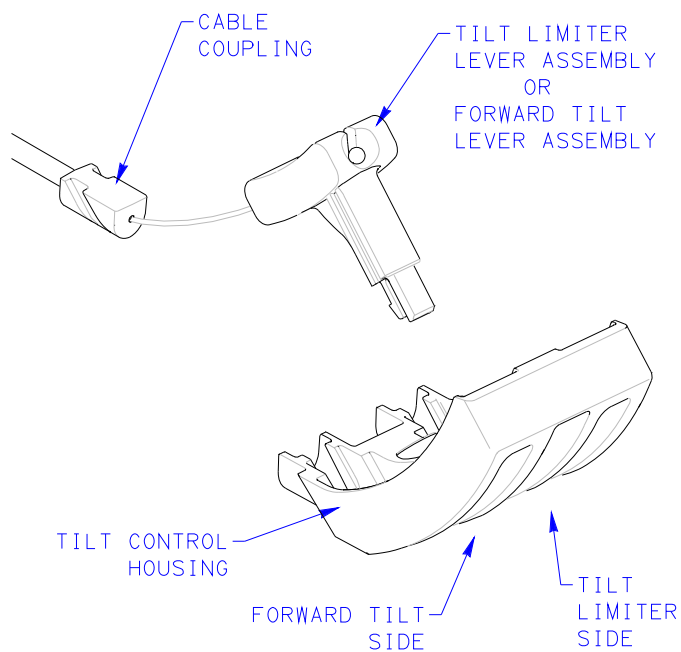

FIGURE 4
6. REMOVE TILT LIMITER LEVER / FORWARD TILT LEVER ASSEMBLIES FROM TILT CONTROL HOUSING. SEE FIGURE 4.